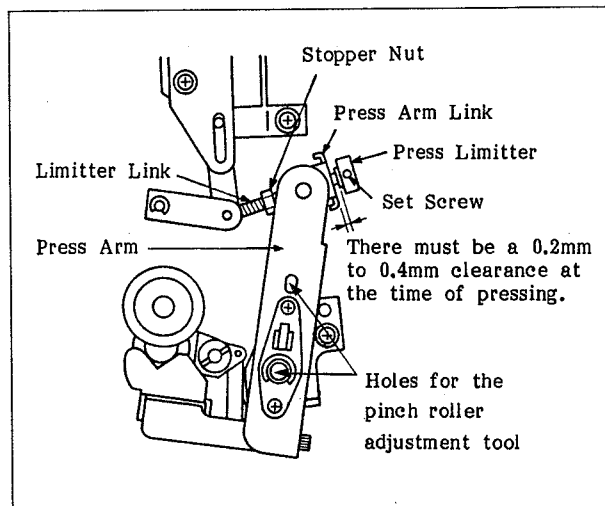

Fig. 6-99 Adjustment of the Pinch Roller Pressure
- Check that there is a 0.2mm to 0.4mm clearance between the press link and the press limiter, as shown in Figure 6-99. If there is, go to step f. If there is not, make the following adjustments.
- Adjust the value of the torque with the stopper nut shown in Figure 6-99. Then, repeat step g.